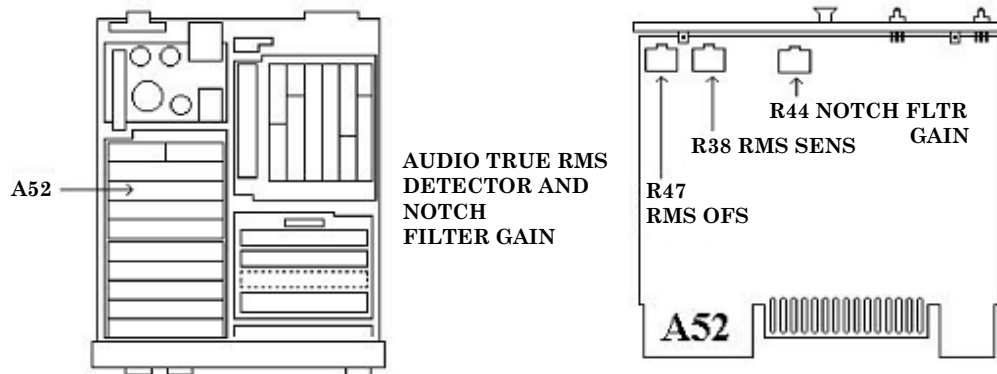

Figure 15. A52 board.
(5) Adjust A52R47 RMS OFS (fig. 15) for a TI indication of between -0.0005 and 0.0005. (R)
- (6) Press TI keys as listed in (a) and (b) below:
- (7) Using a tee connector, connect audio analyzer **OUTPUT HI** to **TI MODULATION OUTPUT /AUDIO INPUT** and multimeter **INPUT**.
- (8) Set multimeter to read ac volts.
- (9) Set audio analyzer for an output frequency of 2 kHz at a level of 3.9 V.
- (10) Adjust A52R38 RMS SENS (fig.15) for a TI display equal to the indication of the multimeter to the third decimal place. (R)
- (11) Change audio analyzer output level to 100 mV.
- (12) Press TI keys as listed in (a) and (b) below:
- (13) Adjust A52R44 NOTCH FLTR GAIN (fig. 15) for a TI display between 99.9 and 100.1%. (R)
- (14) Change audio analyzer output frequency to 800 Hz.
- (15) Press TI keys as listed in (a) and (b) below:
- (16) TI indication should be greater than 98 percent.
- (17) Reduce all outputs to minimum and disconnect equipment setup.